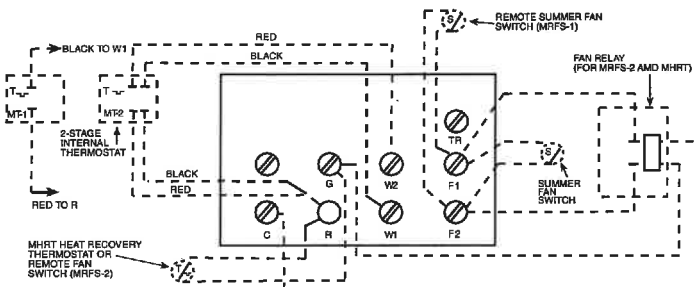

Figure 5. Control Terminal Board (for Heaters With Contactors)
4. On units provided with internal contactor (units rated 7 KW and higher) refer to Figure 5 for wiring diagram. Control wiring must be rated minimum 18 AWG.